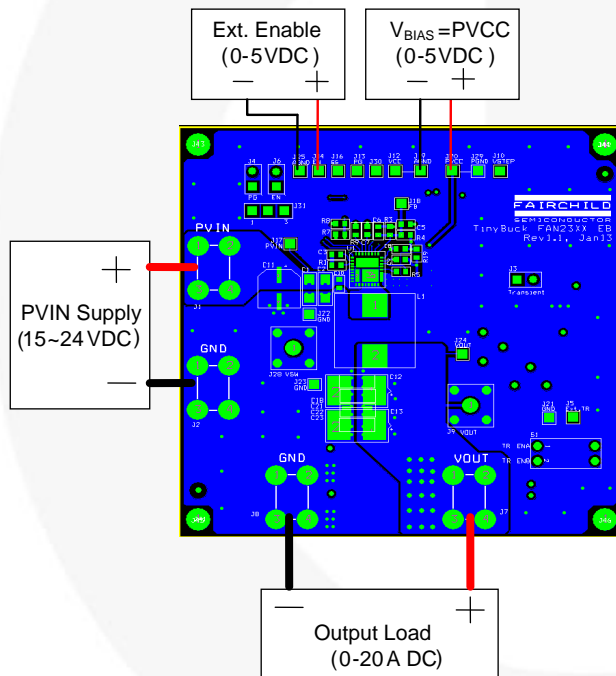
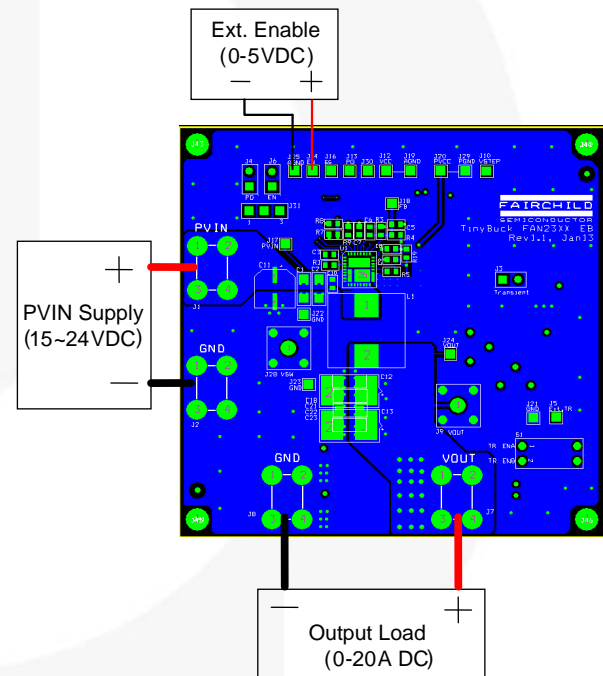

Figure 3. Test Setup for Non-SV Application
Figure 4. Test Setup for SV (Single Voltage)
- Adjust V_{IN} power supply, PVCC bias supply, and external EN supply to 0 V; connect as shown in Figure 3 (non-SV part) or Figure 4 (SV part).
The FAN23XX evaluation board can be enabled using an external-enable-logic signal, as shown in Figure 3 and Figure 4. By default, R8 is populated with 1 M Ω to hold EN LOW. For non-SV parts, an auto-enable function can be implemented by placing a shorting jumper in location J6 to enable the part when PVCC is applied.
- Set up equipment and board as shown in Figure 3 or Figure 4.